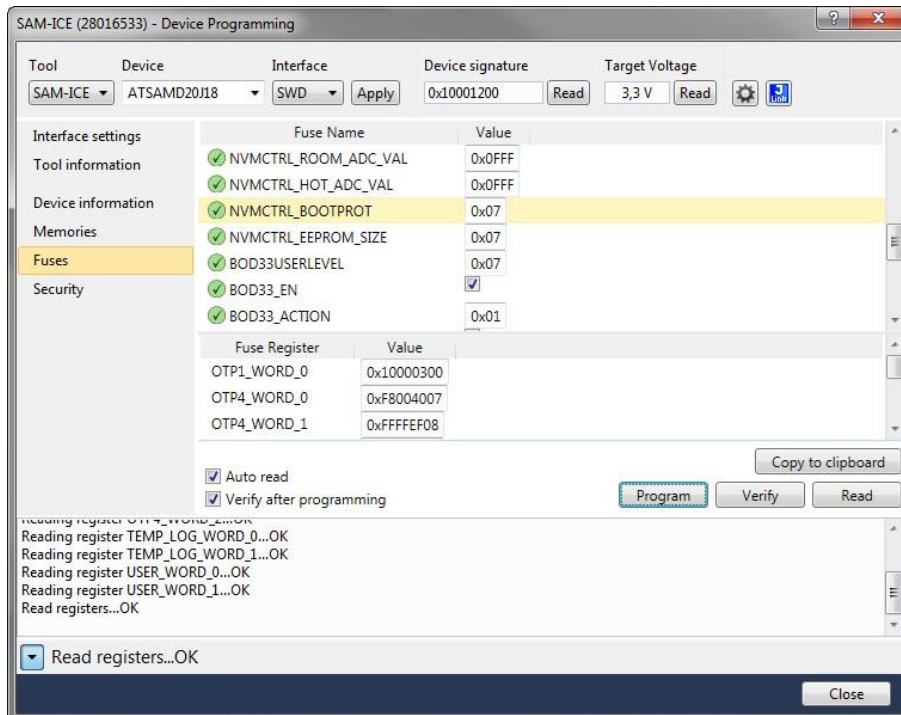

Figure 10 - Atmel Studio, Device Programming, Fuses
- Go to *Fuses*, under *fuse name* find “NVMCTRL\_BOOTPROT”, set its value to “0x07” and click *Program*. It should be done with no errors messages. (Figure 10)